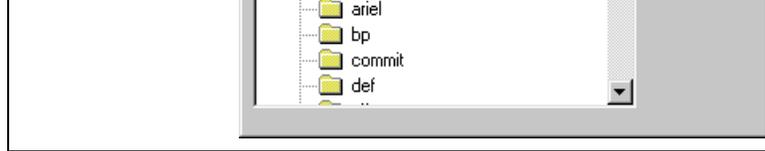

Figure 9.2: Create SourceSafe Project
6. Click “**OK**”. The “Create SourceSafe Project” dialog is invoked * MERGEFORMAT (figure 9.2).